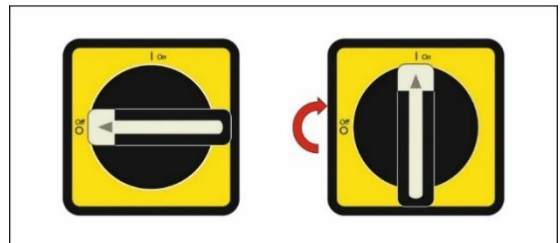

Figure 5-15
- Start the machine by turning the main switch, placed on the electrical panel, clockwise Figure 5-15.